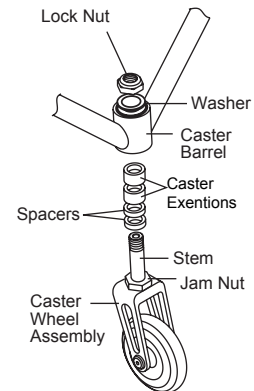

Figure 132
- Remove the lock nut. See Figure 132.